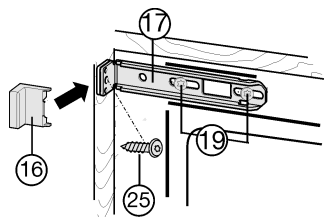

Fig. 17
- ▶ Loosen the screws *Fig. 17 (19)* a little.
- ▶ Tightly screw the top mounting bracket *Fig. 17 (17)* to the unit wall using Spax screw *Fig. 17 (25)*  $\varnothing 4 \times 19$ .
- ▶ Break off the projecting end of the cover *Fig. 17 (16)*.
- ▶ Tighten the screws *Fig. 17 (19)*.
- ▶ Put on the cover *Fig. 17 (16)*.